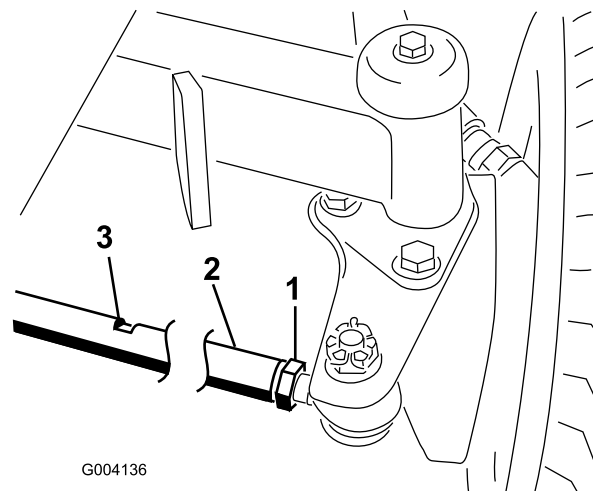

Figure 69
2. Loosen the jam nut on each end of the tie rod (Figure 69).